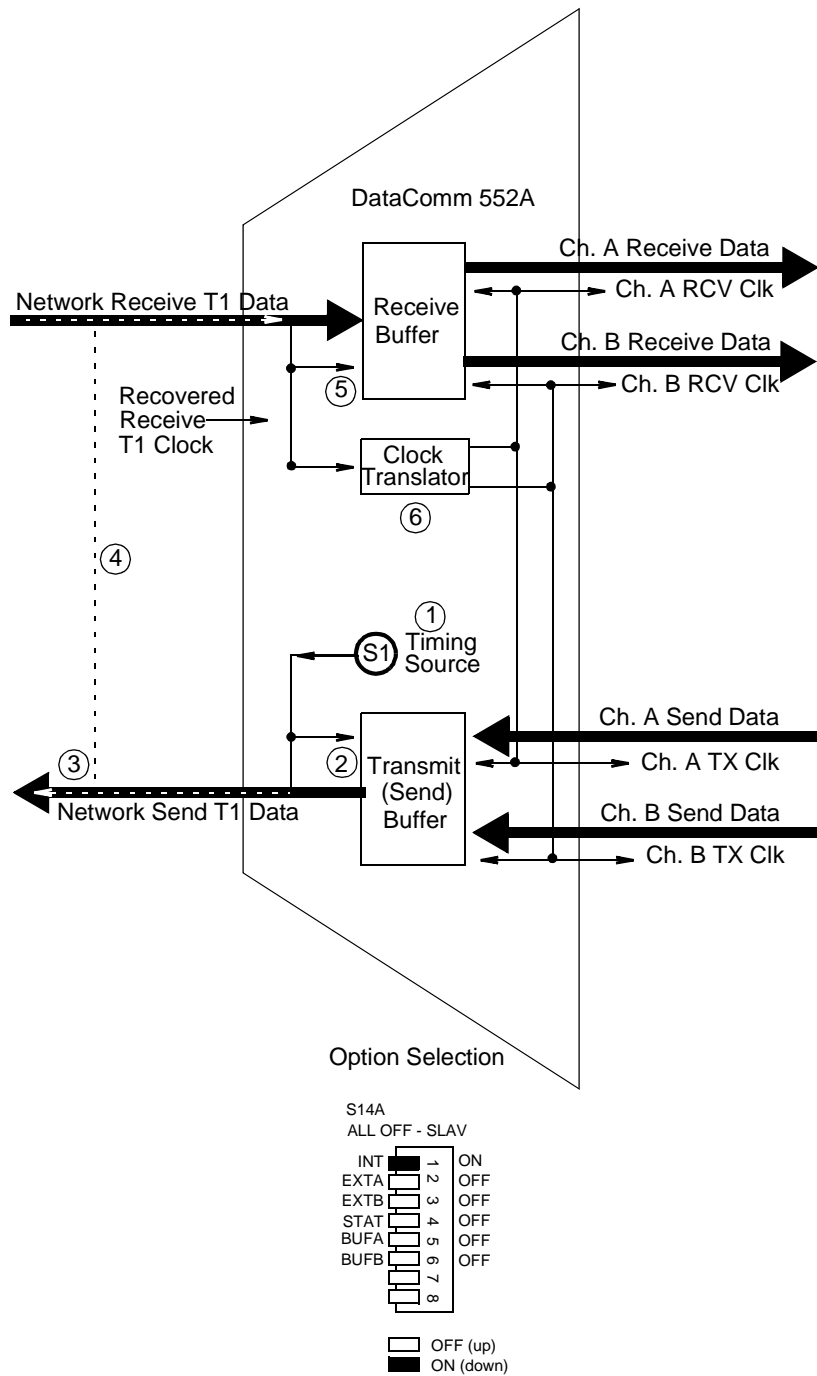

Figure B-2 Internal Timing
With Internal Timing, illustrated in Figure B-2, the DSU provides the send timing source (1) for T1 data output from the transmit buffer (2) to the network. (This clock satisfies the requirements of a Stratum 4, Level II clock, as defined in PUB 62411.) The remote DSU uses this as its timing reference (3) and loops it back to the DSU (4). The DSU recovers the receive T1 clock from the network receive T1 data and uses it to clock T1 data into the receive buffer (5). The DSU also translates (6) the receive T1 clock to provide the channel transmit and receive clock signals on the appropriate interface leads for each channel.